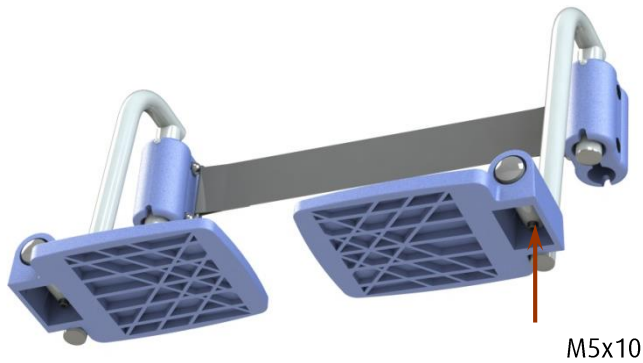

Figure 15 Foot rest
- Allan key 4mm
- Check M5x10 (bottom of plate), and replace stainless-steel bolts with ELVZ 8.8 bolts. (See figure 15)